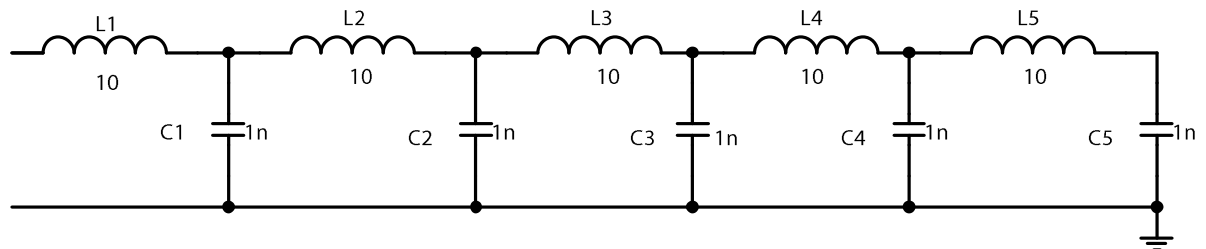

Figure 1
1. Open PSPICE and create 5 sections of a lossless transmission line by placing 5 inductors (use values of  $L=10H$ ) in series, then connect each node between the inductors (and the node after the last inductor) to ground through a capacitor (use  $C=1nF$ ) as shown in Figure 1. This is the lumped element model for a lossless transmission line.